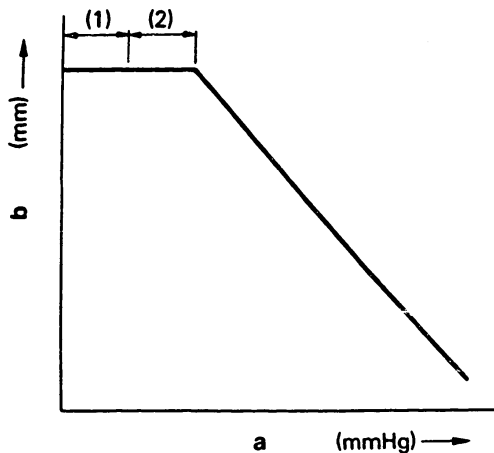

Fig. 50 Characteristic curve for aneroid compensator
Because of the reduction in atmospheric pressure, the bellows expands and pushes against the set force of the aneroid compensator spring. Pushrod (2) moves until it contacts the plate of the U-shaped lever. However, despite this movement, there is no change in the control rack position (non-reaction range (1) ... See Fig. 50).
This condition continues until the expansion force of the bellows overcomes the force of the aneroid compensator spring and the cancel spring. (Non-reaction range (2) ... See Fig. 50)